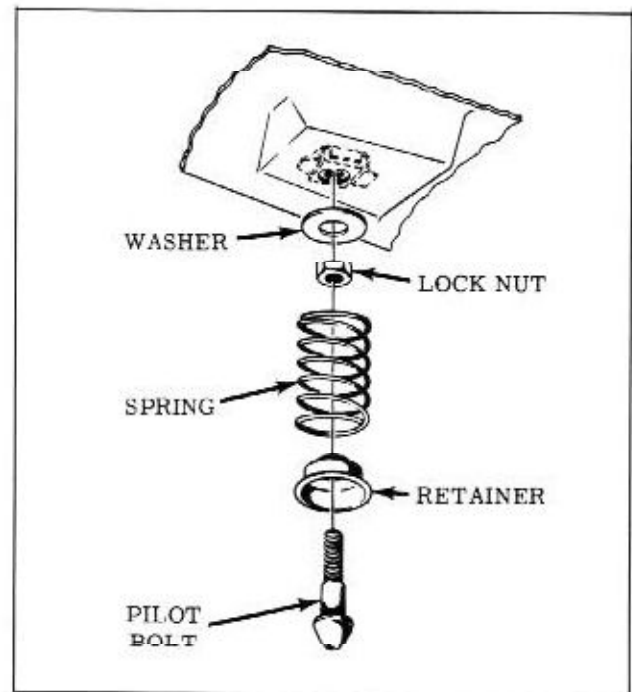

Fig. 11-4 Hood Pilot Bolt
3. Adjust hood front bumpers to align front of hood vertically with fenders. Lateral adjustment of the front of hood is obtained by adjusting the pilot bolts. (Fig. 11-4)